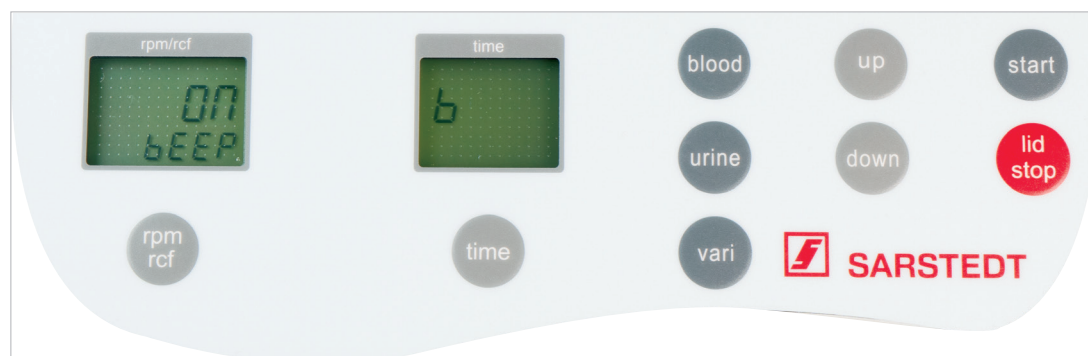

Figure 5
Open the “Basic Settings” menu as described in 1.8.1. Then press the “time” key (3). The currently selected menu item flashes in the “time” (A-2) display field. Now select the letter “b” with the “up” (7) or “down” (7) keys. The text “ON/BEEP” is displayed in the “rpm/rcf” (A-1) display field. If the “rpm/rcf” key (2) is pressed, the tone can be switched On (On) Off (Off) with the “up” (7) and “down” (7) keys. (See Figure 5).